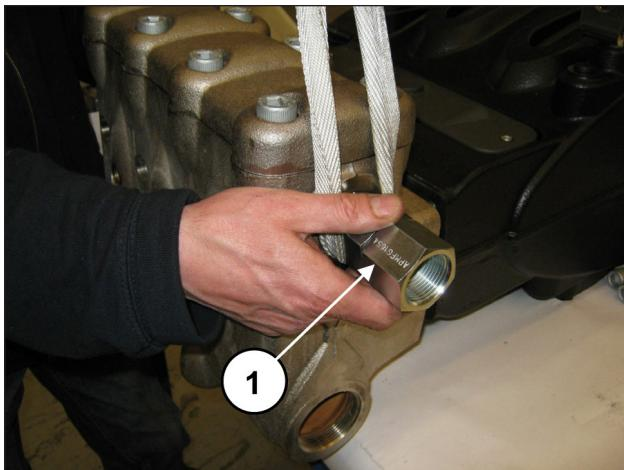

Fig. 106
During disassembly of the head, pay special attention not to hit the pistons (pos. ①, Fig. 106).